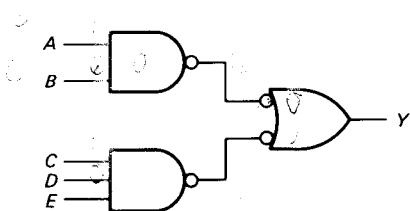

Fig. 3-33
- 3-23.** What is the output in Fig. 3-33 if all inputs are low? If they are all high?
- 3-24.** How many words are in the truth table of Fig. 3-33? What does Y equal for each of the following: